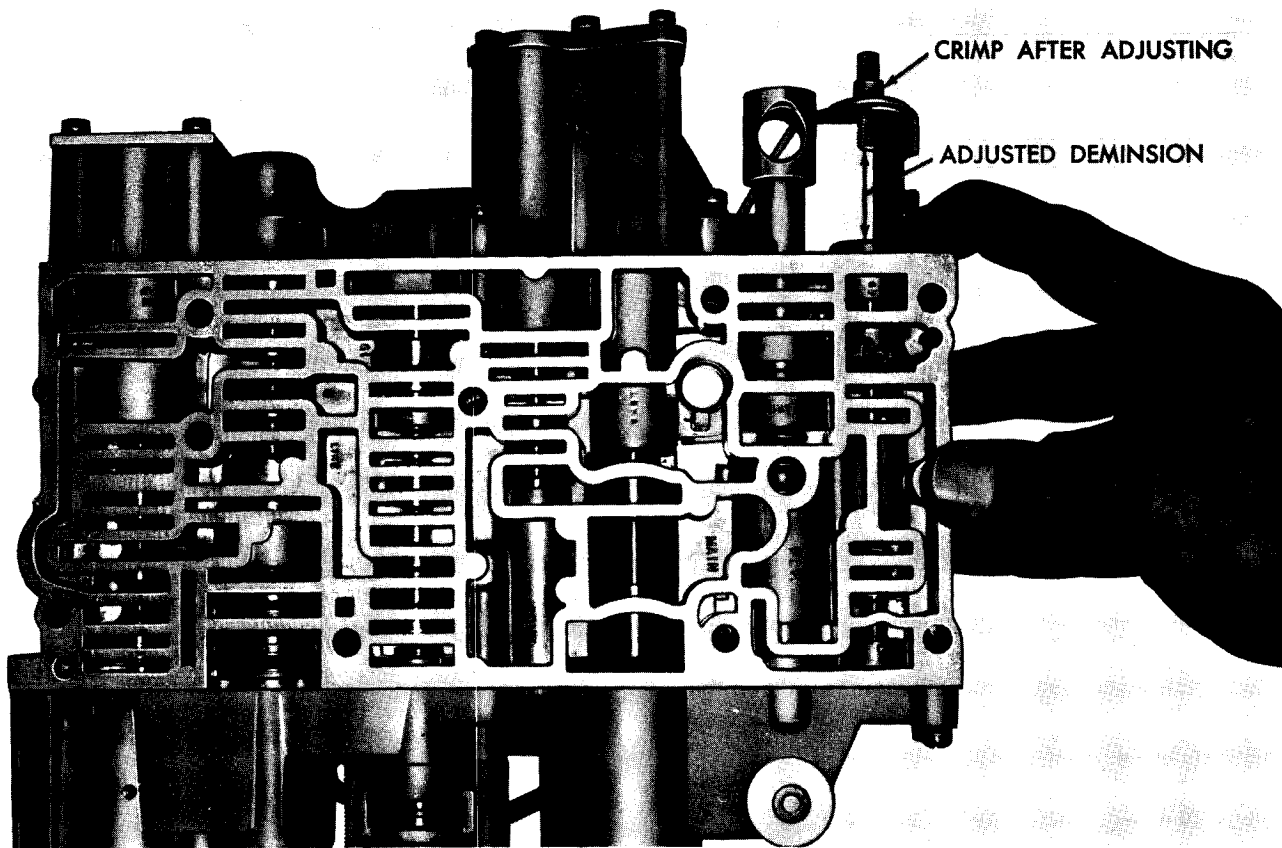

Fig. XVI-2 Throttle valve adjustment
(1) Measure the distance on the original valve body assembly between the rear of the throttle valve (depressed until it bottoms) and the front of the throttle valve adjusting screw (fig. XVI-2). Record this dimension.
(2) Adjust the screw on the new valve body assembly until the distance between the front of the screw and the rear of the depressed throttle valve corresponds exactly with the measurement made in (1), above.
(3) Lock the adjusting screw by crimping the threaded portion of the retainer against the flat side of the adjusting screw.
(4) The external adjustment concerns the linkage connecting the accelerator pedal, engine throttle, and the transmission throttle lever. This adjustment is extremely important because it matches the transmission func-